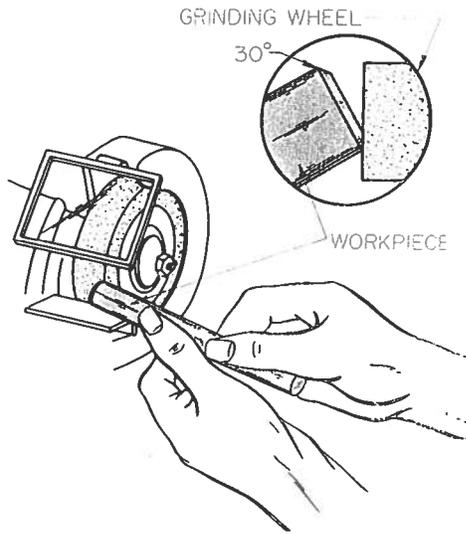

Fig. 20-6 Beveling the end of the workpiece before threading.
1. Bevel the end of the rod to be threaded (Fig. 20-6). ("Bevel" means to slant or taper the edge.) This makes it easier for the die to start the thread.